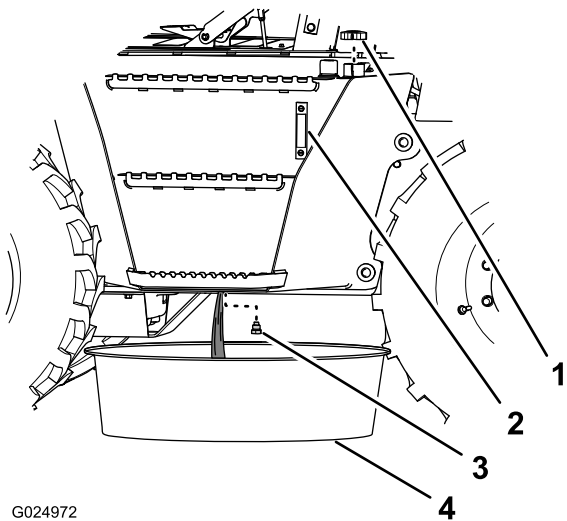

Figure 108
7. Remove the drain plug from the hydraulic reservoir (located underneath the reservoir), and drain the reservoir (Figure 108).
9. Install the drain plug (Figure 108).